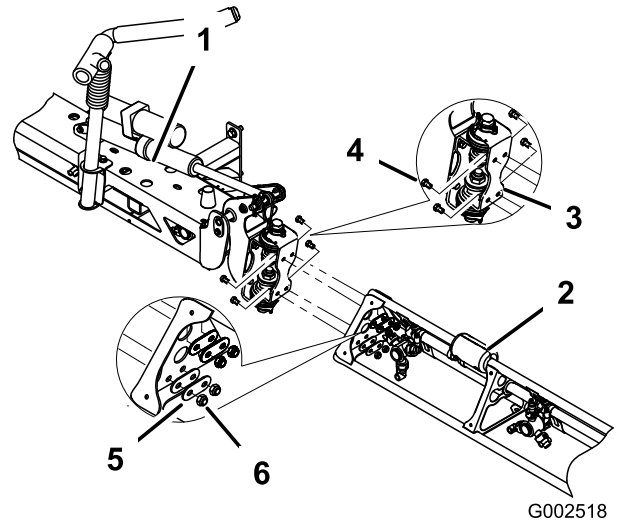

Figure 29
- Install the extension boom to the center boom at the hinge plate using four bolts, four washers and four nuts removed in step 6 as shown in Figure 29.